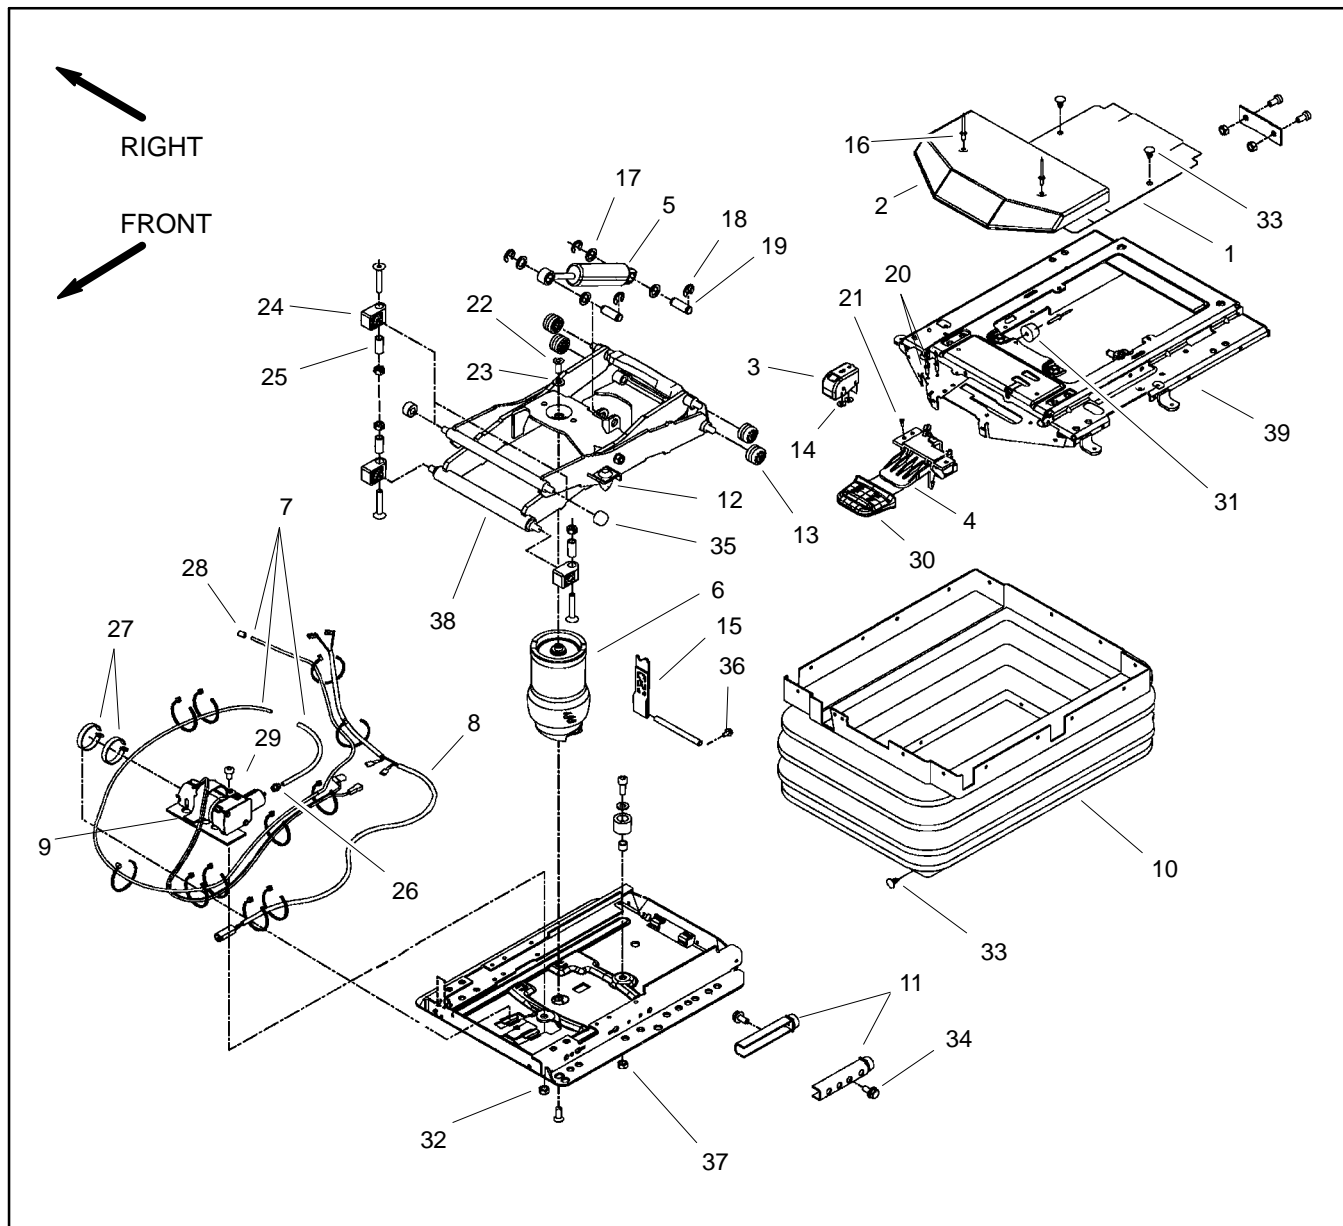
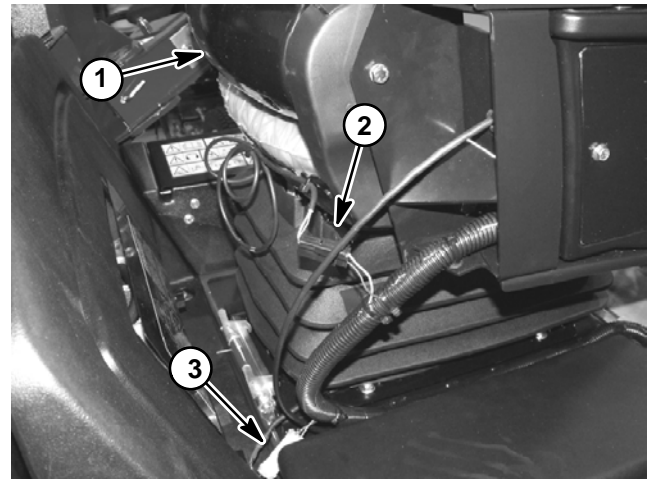
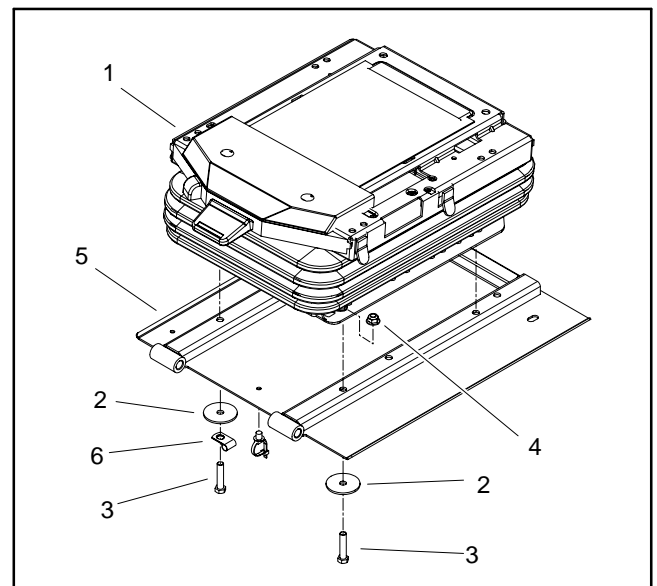

Figure 12
Figure 13
Figure 14
Disassembly (Fig. 12)
2. Disconnect seat suspension connector from machine wire harness (Fig. 13).
3. If the air spring assembly (item 6) or base plate (item 37) requires removal, remove seat suspension from seat plate (Fig. 14):
B. Remove four (4) cap screws, flat washers and flange nuts that secure seat suspension to seat plate.
4. Remove seat suspension components as needed using Figure 12 as a guide.
Assembly (Fig. 12)
1. Install all removed seat suspension components using Figure 12 as a guide.
2. If seat suspension was removed from seat plate, secure suspension to seat plate (Fig. 14):
B. Secure seat suspension to seat plate with four (4) cap screws, flat washers and flange nuts.
4. Make sure that seat electrical connectors are connected to machine wire harness (Fig. 13).